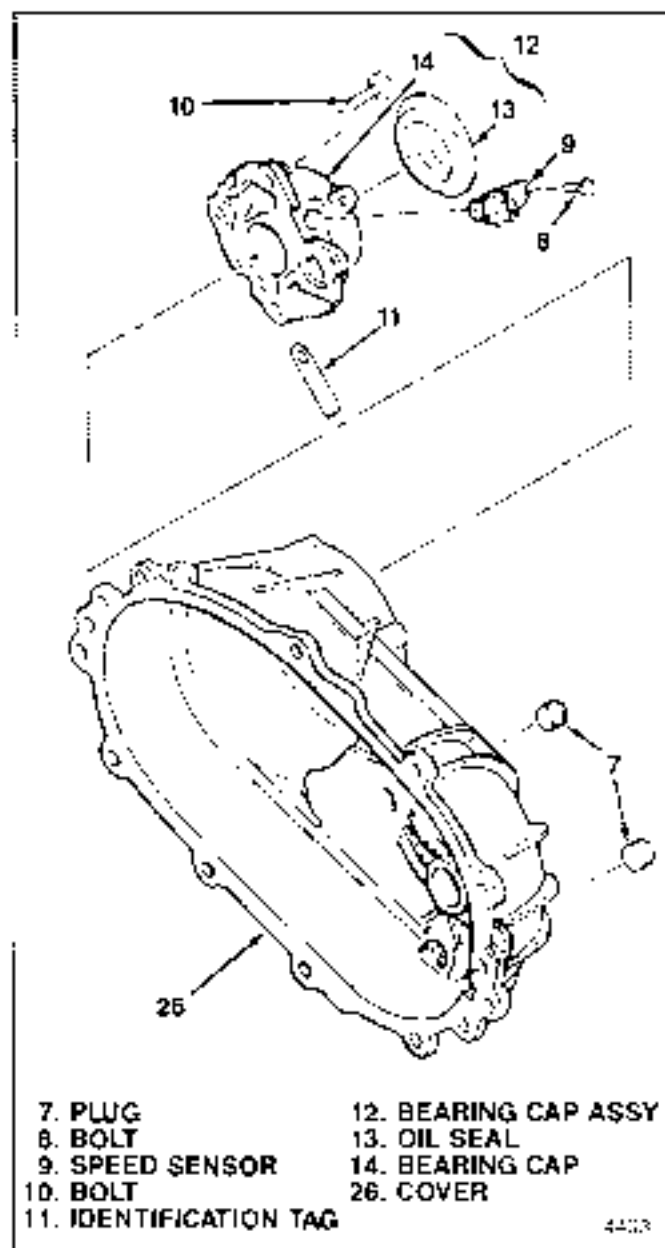
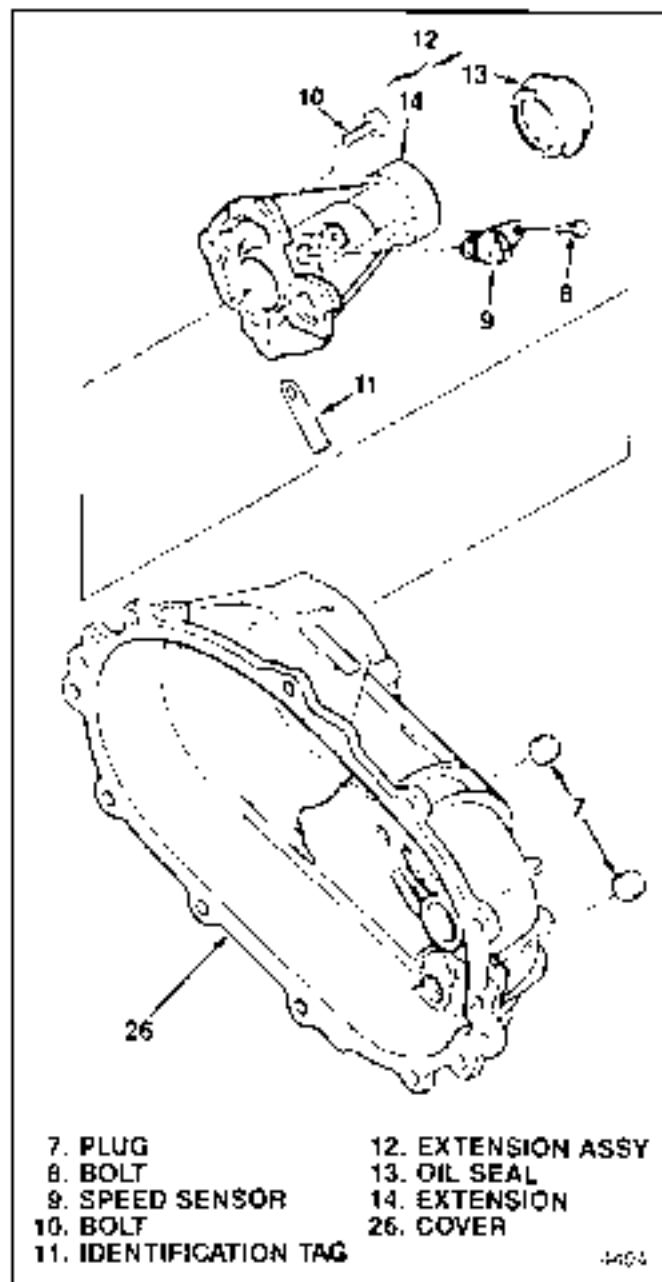
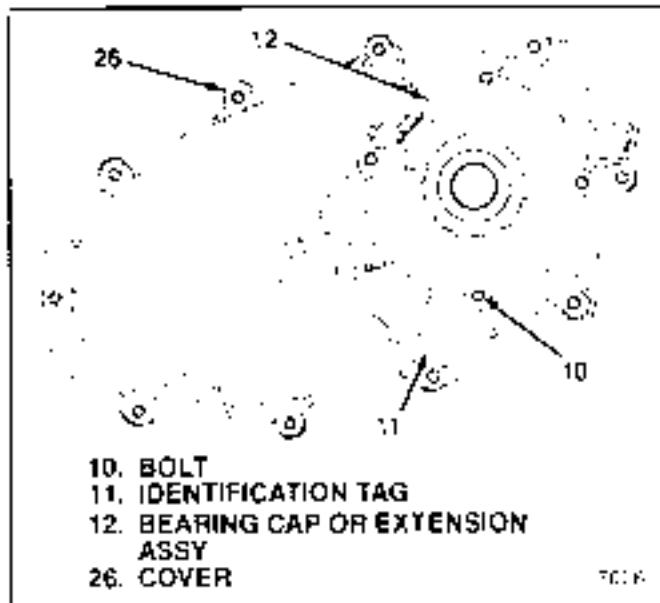
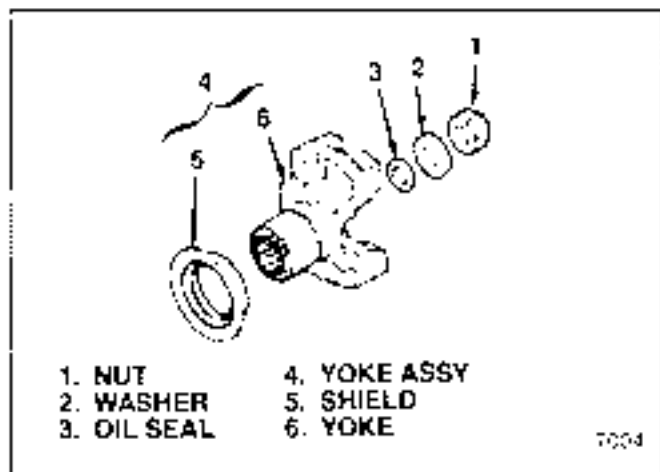

Figure 5-16. Bearing Cap Group
Figure 5-17. Extension Group
Figure 5-18. Identification Tag Location
Figure 5-19. Rear Yoke Group
**5-15. ASSEMBLY AND INSTALLATION OF BEARING CAP OR EXTENSION GROUP.** Proceed as follows (see figure 5-16 for bearing cap; figure 5-17 for extension assembly):
a. For units with extension and bushing assembly (14) only, make sure bushing is in place and in serviceable condition.
b. Press new oil seal (13) into bearing cap or extension assembly (14).
c. Apply continuous 1/16 in. (1.6 mm) bead of sealant (Neutral Cure RTV, Loctite 590) all around cover (26) mounting face for bearing cap or extension assembly (12). Center sealant bead between edges of face. Circle hull holes.
d. Install bearing cap or extension assembly (12) on cover (26) and attach with four bolts (10). Install identification tag (11) under head of one bolt at location shown in figure 5-18. Torque bolts to 25-35 lb-ft (33.9-47.3 Nm).
e. Attach speed sensor (9) to bearing cap or extension assembly (12) with bolt (8).
f. Install fill and level plugs (17) (two plugs) and torque to 10-20 lb-ft (13.6-27.1 Nm).
**5-16. INSTALLING REAR YOKE GROUP.** To assembly as completed thus far (7 through 102), install rear yoke group, when used, as follows (see figure 5-19):
a. If removed, press shield (5) onto yoke (6).
b. Install yoke assembly (4), oil seal (3), washer (2) and nut (1). Hold yoke with torque bar T 13 70 002 and torque nut (1) to 150-180 lb-ft (203-244 Nm).